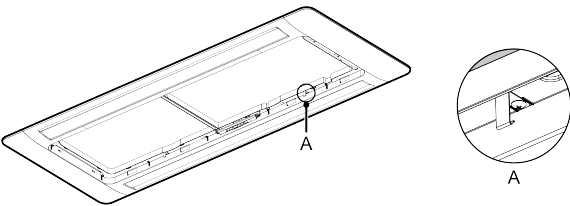

Fig.4.5.6
- (2) Adjust the position of panel to make the panel holes fix at the holes on the unit.
- (3) Fix the 4 screws at the two side of panel and then fix the 2 screws in the middle of panel.
- (4) Tighten the two “J”-shape hooks in the accessories on the panel with screws, please refer to Fig.4.5.6.